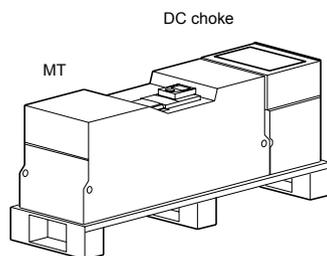

Figure 1
- A DC choke (figure 1)
The drive and DC choke (if applicable) are attached to a pallet using screws (figure 1). When there is a DC choke, it is supplied assembled for ease of transport. The equipment must be unpacked in the following order: